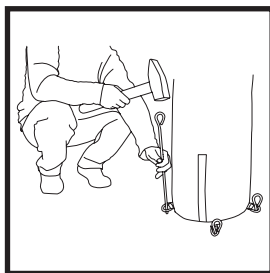

Fig. 2
4. Anchor the pillar to the ground by inserting spike into the rings at the base (Fig. 2).